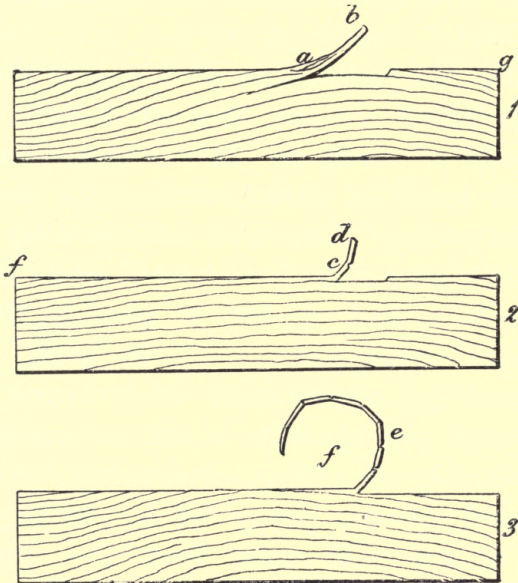
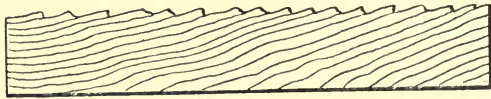

Fig. 25.
Fig. 27.
With this instrument it is impossible for the end of the shaving to slide far up the iron, and cause a deep split in the wood, because the shaving is caught by the back iron or cap and bent forward. If the cap is thick enough, and set near enough to the edge of the cutting-iron, it will bend the shaving so abruptly as to break it. As long as the shaving was a strong stick or splinter, as at *a b*, Fig. 25, the forward movement of the cutting-iron tended to lift this stick up without breaking it, and extend the split
4. Do not, as a general rule, work "against the grain," that is, in such a direction as from *a* to *g*, Fig. 25, or from *c* to *f* in the same figure. When you work thus, each fiber is torn some little distance down into the wood before it is cut off, and the result is a number of small shallow pits, deeper at one end than at the other, leaving the surface rough, as in Fig. 27, in which the appearance
leaves the surface smooth. As the grain often runs differently in different parts of the piece (as it does, for example, in Fig. 25) it will be necessary, in such cases, to turn the piece from time to time, as you work on different parts. While it is not best in general to work against the grain, it is often allowable, and even preferable, to do so when a considerable thickness of wood is to be removed, as the plane, if not set too coarse, works freer and more rapidly against the grain than with it. In this case also, however, it will be necessary, when nearly the desired amount of wood has been taken off, to turn the piece, and finish with the grain.